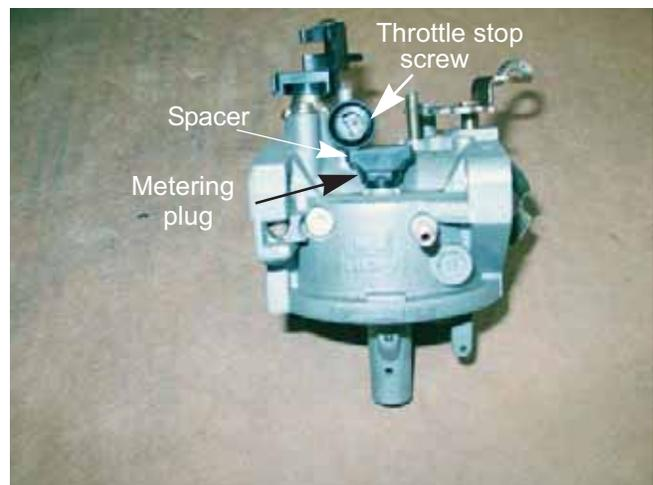

Figure 4.32
11. Carefully pry out the metering plug and spacer using a small screwdriver. See Figure 4.32.